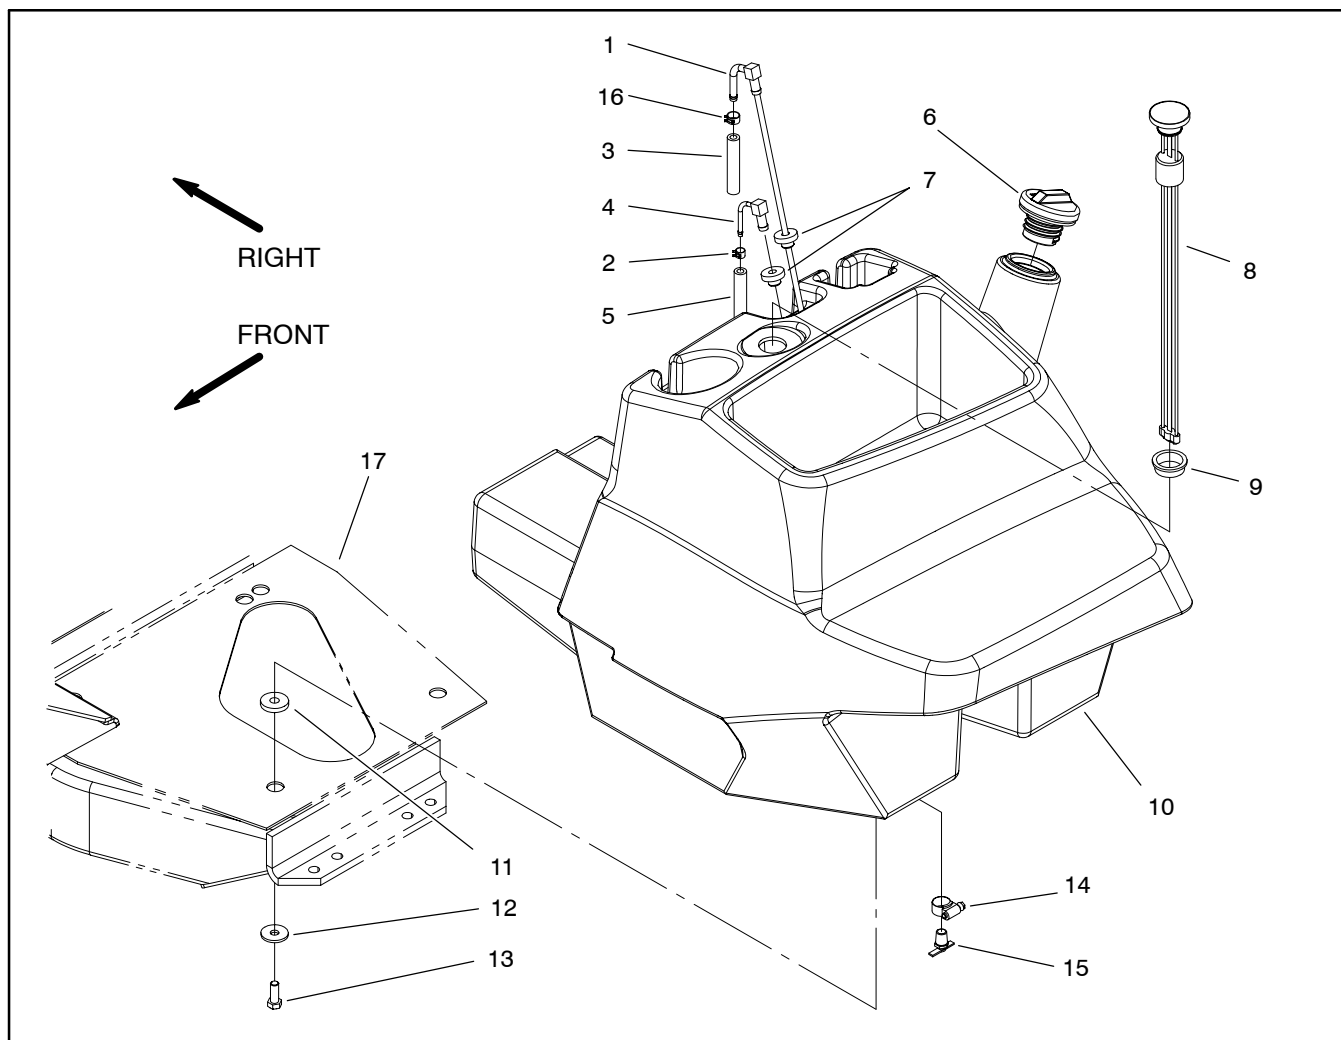

Figure 7
4. Remove fuel tank using Figure 7 as a guide.
1. Install fuel tank to frame using Figure 7 as a guide.